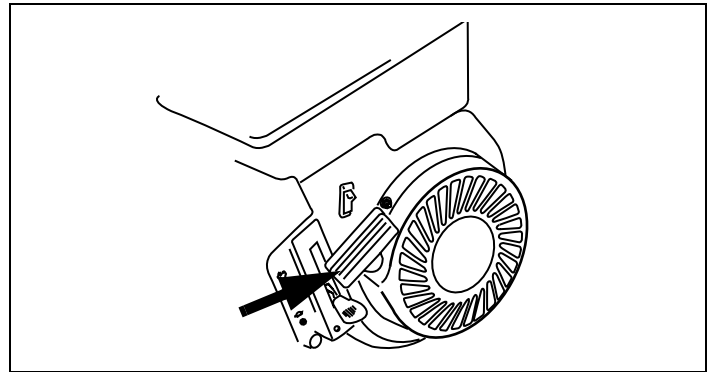

Figure 19. Starter Cord Handle
4. Grasp starter cord handle. See Figure 19.